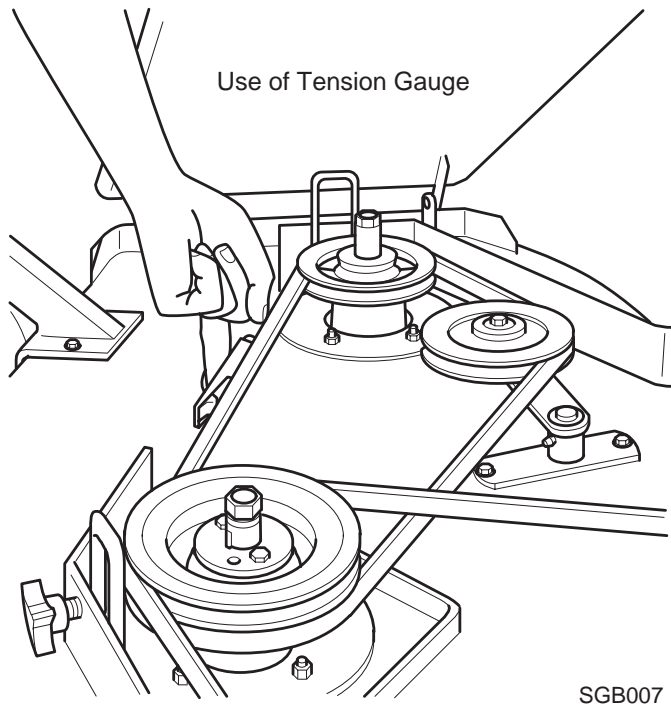

Figure 6-5. Blade Drive Belt Tension Check
- A. Using a belt tension gauge, check the belt tension so that the belt moves 1/2" with 10 pounds of pressure. See Figure 6-5.